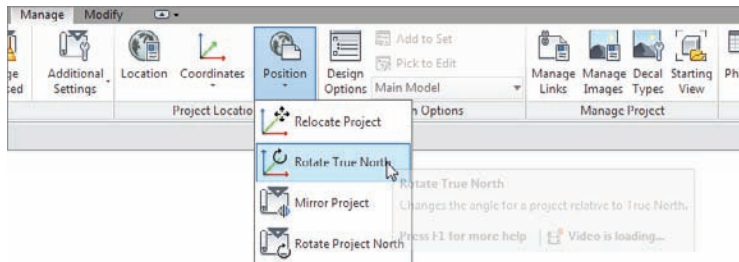

FIGURE 18.29 Rotating true north
2. On the Manage tab, click Position > Rotate True North, as shown in Figure 18.29.